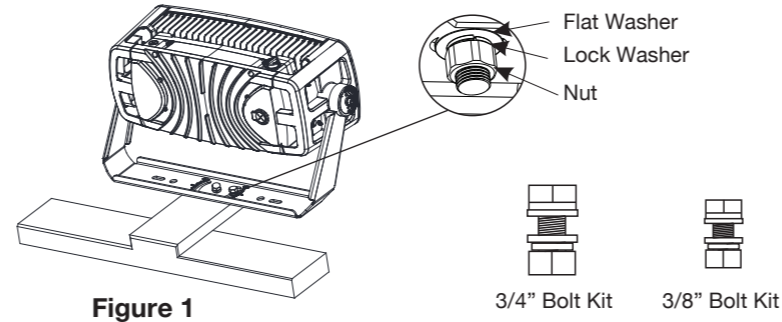

Figure 1
- (1) 3/8" aiming lock bolt/nut, flat washers & lock washer kit. (Fig. 1)